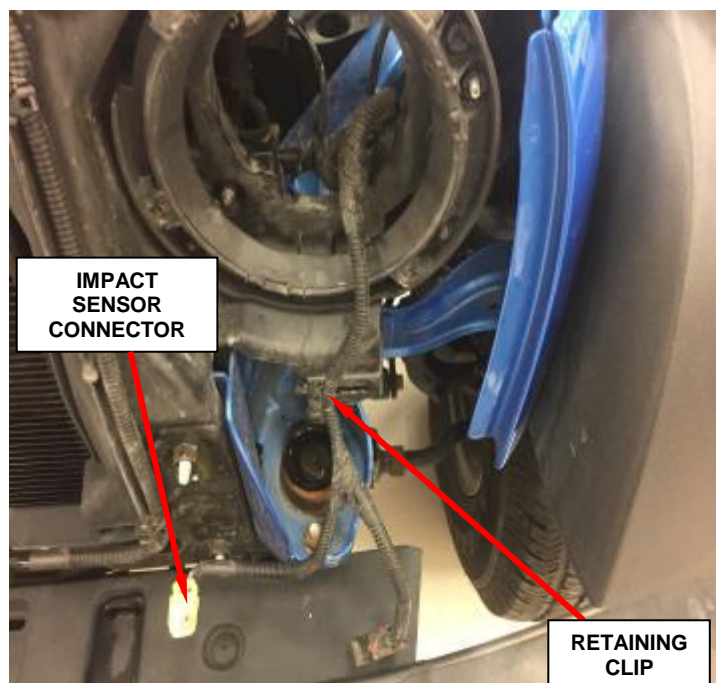

Figure 13 – Wire Harness Retaining Clip
34. Pull the pigtail through the headlamp opening for access to rework the harness (Figure 13).
35. Remove and **discard** the wire harness retaining clip from the wire harness (Figure 13).